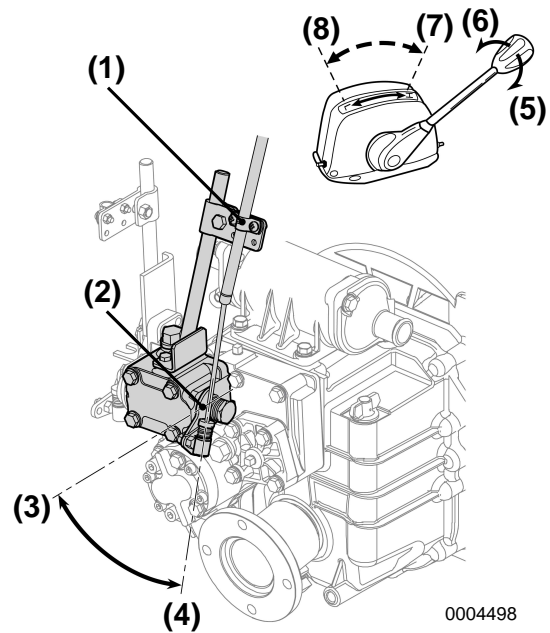

Figure 3
2. Reduce the speed by moving the trolling handle from high speed (H) (**Figure 3, (4)**) to low speed (L) (**Figure 3, (3)**). Adjust the speed to the desired rate and secure the trolling handle in place.
3. Before returning to normal operation, be sure to put the trolling handle in high speed (H) position.